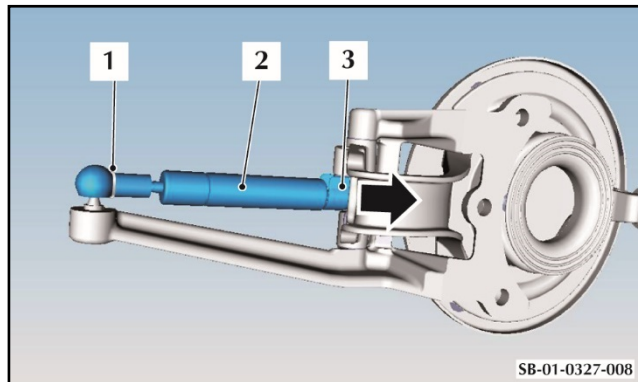

Figure 8
14. Remove the clip (1) that attaches the ball joint socket of the gas strut (2) to the hinge bracket (refer to Figure 8).
15. Push the retaining cover (3) in the direction of the arrow to release it from the gas strut (3).
16. Remove and discard the gas strut (2).